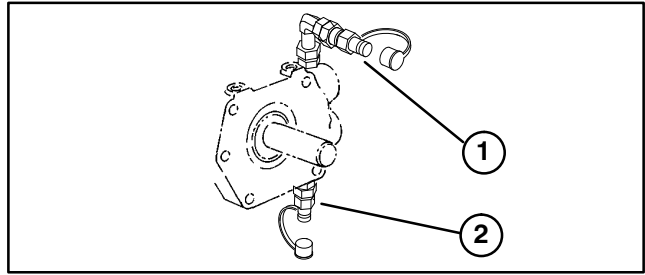

Figure 41
The test ports (Fig. 41 & 42) are used to test the hydraulic circuits. Check all pressures when engine is at full speed and hydraulic oil is at normal operating temperature. Contact your local Toro distributor for assistance.
1. Traction Forward and Reverse (Fig. 41) (behind wheel motors) has a normal relief setting of approximately 5300 psi and 50 – 150 psi charge pressure. Use a gauge with 7500 – 10,000 psi full scale rating.